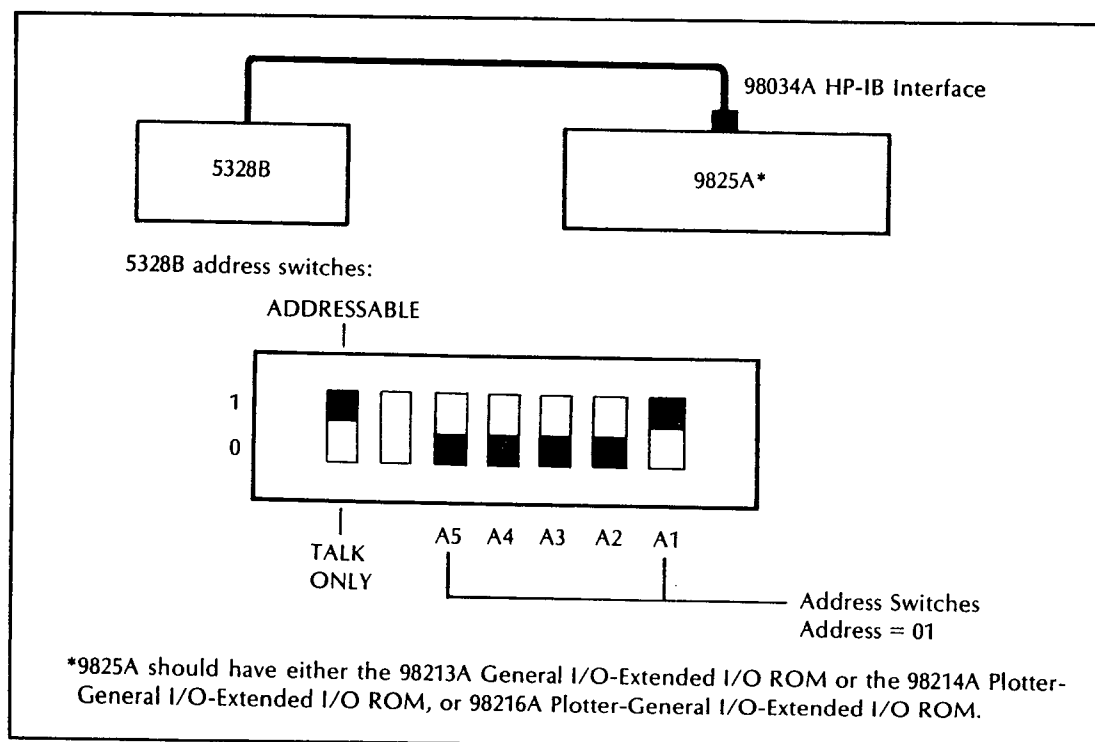

Figure 4-17. HP-IB Verification — Test Connections and Address Switch Settings
- a. Set up the Model 5328B as shown in Figure 4-17.